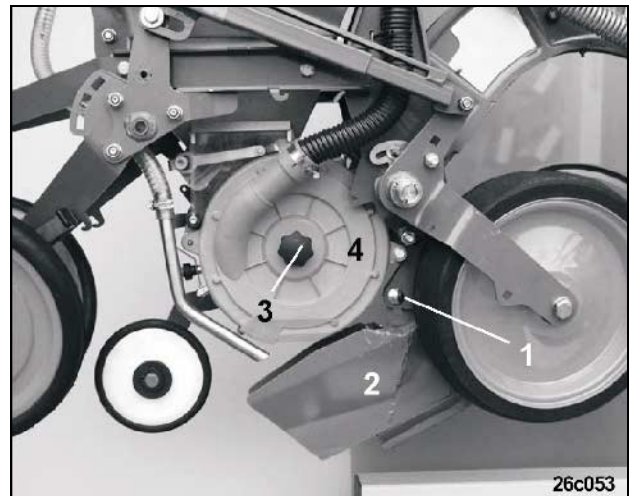

Fig. 65
- Slacken the rear bolt (Fig. 65/1) of the coulter bracket and swivel the coulter (Fig. 65/2) downwards.
- Slacken plastic counter nut (Fig. 65/3) and remove the suction cover (Fig. 65/4) with the singling disc (Fig. 66/2) in sideways direction